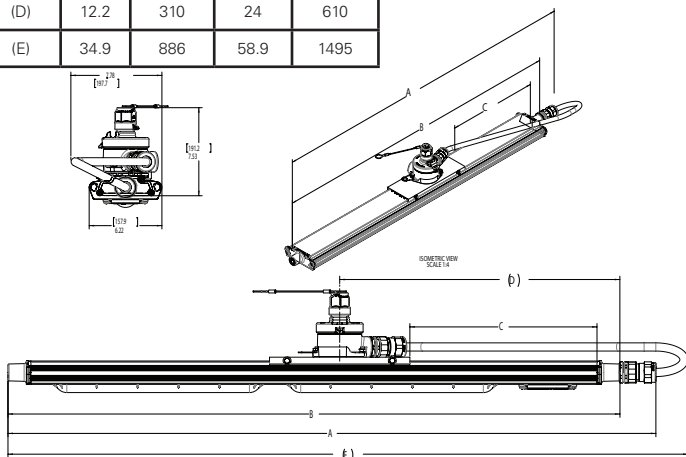

Figure 10
3. Install the slide mount bracket with junction box on the mounting flange of the fixture as shown in Figure 10. Adjust the position of the slide mount to dimension C shown in table. Note: dimension C is referenced to the end of the fixture mounting flange.
6. Install one (1) cable gland thread body to junction box and one (1) cable gland thread body to hub on driver end of fixture. Refer to IF 1647 for TMCX Cable Fitting installation and cable preparation instructions.
7. Form the cable approximately as shown in Figure 10.